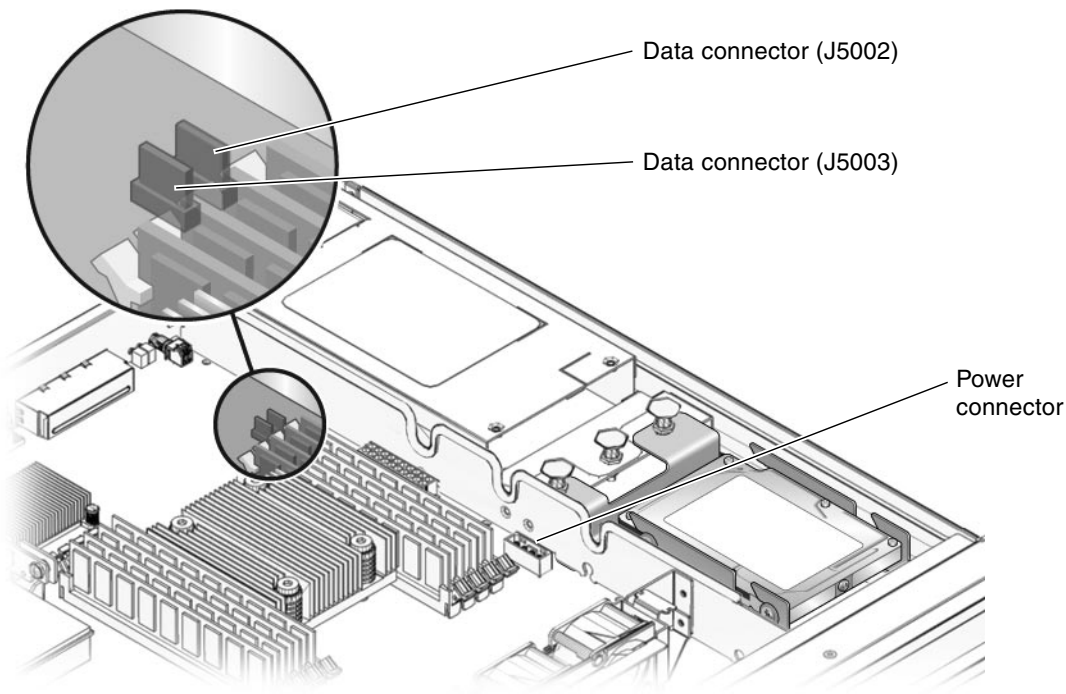

FIGURE 5-8 Location of Drive Power and Data Connectors on the Motherboard
2. Disconnect the drive cable from the data and power connectors on the motherboard (FIGURE 5-8).
7. Plug the power connector on the dual-drive cable to the power connector on the motherboard (FIGURE 5-8).
Refer to FIGURE 5-8 for the location of the *J5003* data connector.
Refer to FIGURE 5-8 for the location of the *J5002* data connector.